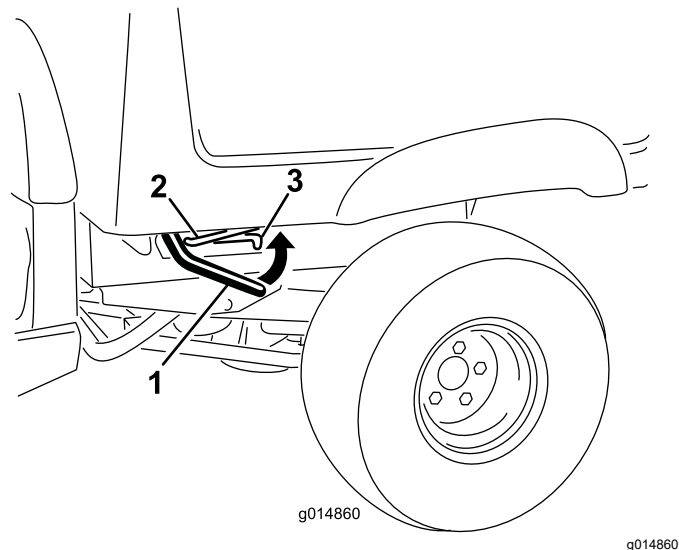

Figure 14
1. Lift the lever on either side of the bed and lift the bed up (Figure 14).
1. Raise the cargo bed slightly by lifting up the latch lever (Figure 14).